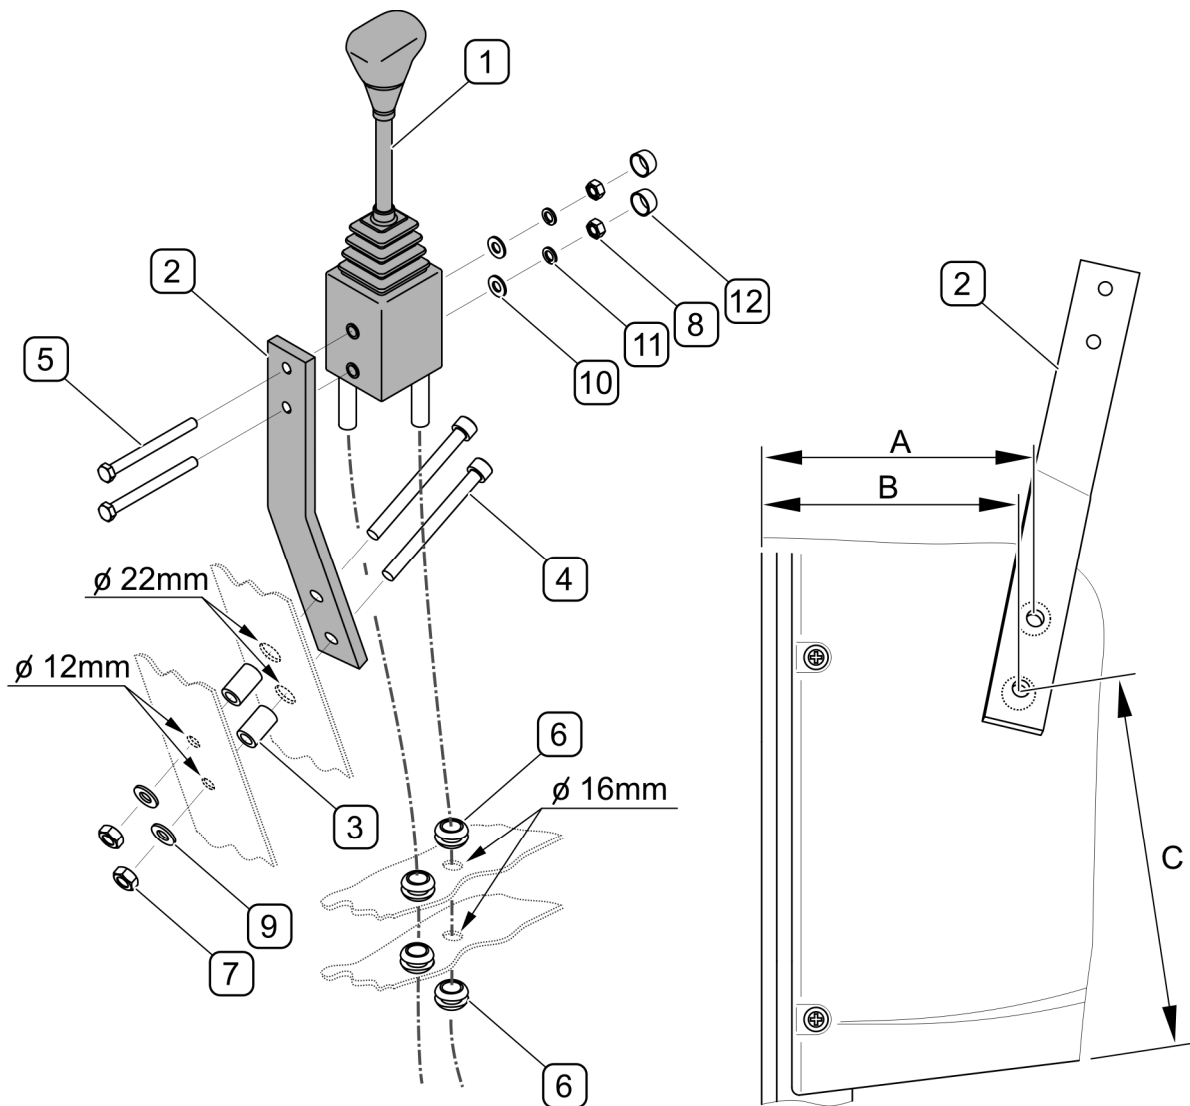

FIGURE 4.7 Installation of the control lever (Pronar 1025A / 1221A)
(1) - control lever; (2) - lever bracket; (3) - spacer sleeves; (4) - M10X110-8.8 bolt, (5) - M8X90-5.8 bolt; (6) - rubber bush; (7) - M10 nut; (8) - M8 nut; (9) - 12-100HV washer;
(10) - 8-100HV washer; (11) - 8,2 spring washer; (12) - bolt cap; (A), (B), (C)- arrangement of mounting holes (see TABLE 4.2);
In Pronar 1025A / 1025All / 1221A / 1221All and 1253A tractors, make mounting holes in the right wheel cover to install the control lever. Make two Ø12 mm holes in metal wheel cover and two Ø22 mm holes in plastic wheel cover. The arrangement of the holes is shown in (FIGURE 4.7). Secure bracket (2) to the tractor wheel cover using bushes (3), bolts (4) with nuts (7) and washers (9). Screw lever (1) down to bracket (2) using bolts (5) with nuts (8) and washers (10) and (11). Put caps (12) on nuts (8). To position the control lever (1) correctly with regard to the tractor wheel cover, place a sufficient number of washers (9) between bush (3) and bracket (2). Make two Ø16 mm holes in the floor, place rubber bushes (4) in the holes and pass the manifold control links (cables) through them.
MARKING (FIGURE 4.7)	TRACTOR MODEL